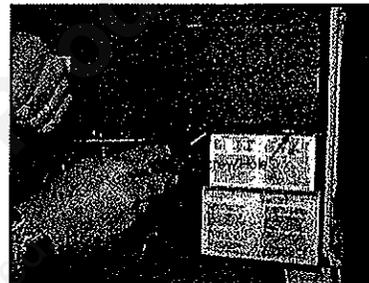

Figure 3BK - Attaching Blower Housing
6. Attach the Blower Housing to the Blower Shroud with the screws provided and then to the Backshield. It will be necessary to drill holes for the screws. See Figure 3BK.